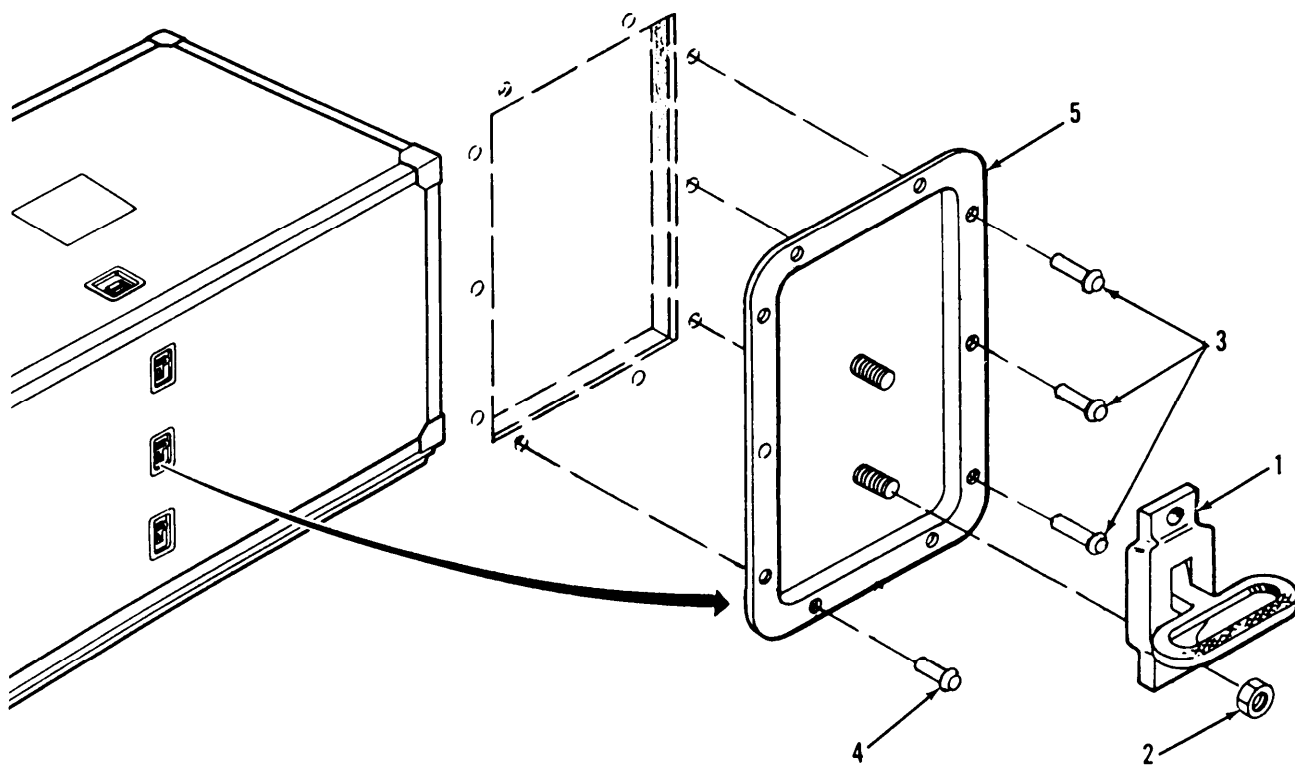

Figure 3-27. Recessed Step Pan Assembly Replacement.
a. Inspect. (Figure 3-27)
- (1) Inspect for ease of positioning.
- (2) Inspect for cracks or other damage.
b. Replace. (Figure 3-27)
- (1) Pull step (1) out and down to operating position.
- (2) Remove two attaching locknuts (2) and remove step (1).
- (3) Remove three blind rivets (3) and seven blind rivets (4) attaching the recessed step pan (5) and remove from wall.
- (4) Position recessed step pan (5) in place on shelter wall and secure with seven blind rivets (4) and three blind rivets (3).
- (5) position step (1) in place and allow captivated bolts to enter the mounting holes of new step.
- (6) Using two locknuts (2) secure step (1) to recessed step pan (5).
- (7) place a bead of sealer around edges of recessed step pan assembly.